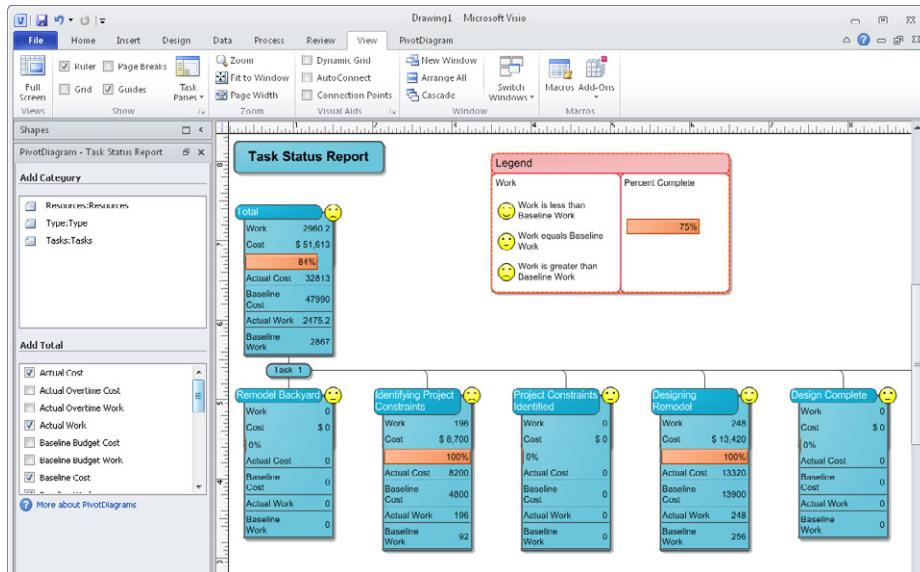

FIGURE 9-8 You can turn on check boxes in the Add Total section to display fields in the VSS shapes.
- **Task Status** This Visio-based visual report shows work, cost, and percentage complete for top-level tasks, but you can include other fields like baseline work, actual work, baseline cost, and actual cost to evaluate project progress, as shown in Figure 9-8. You can also expand summary tasks in the report to evaluate progress in more detail.